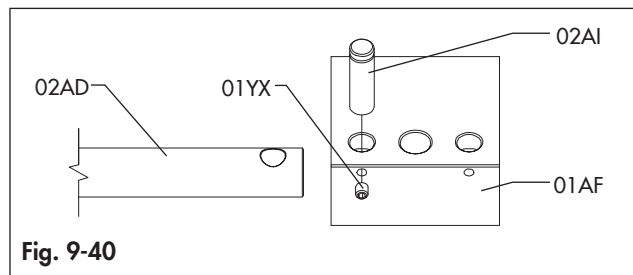
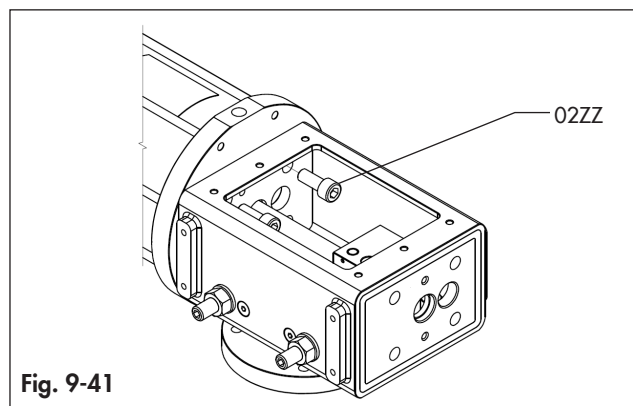

Fig. 9-40
Fig. 9-41
- Insert the shaft (02AD) into the Central module and into the sliding block (01AF). (Fig. 9-40) (Fig. 9-41).
- Add the pin (02AI) keeping the small machining on the upper side. When assembled in the correct position, the pin surface is aligned with the surface of the sliding block. (Fig. 9-41).
- Apply the threadlocker Loxeal 83•21 or equivalent and tighten the screw (01YX). (Fig. 9-40).
- Apply the threadlocker Loxeal 83•21 or equivalent and tighten the bolts (02ZZ) following a cross-bolt tightening sequence at the recommended torque. (Fig. 9-41).